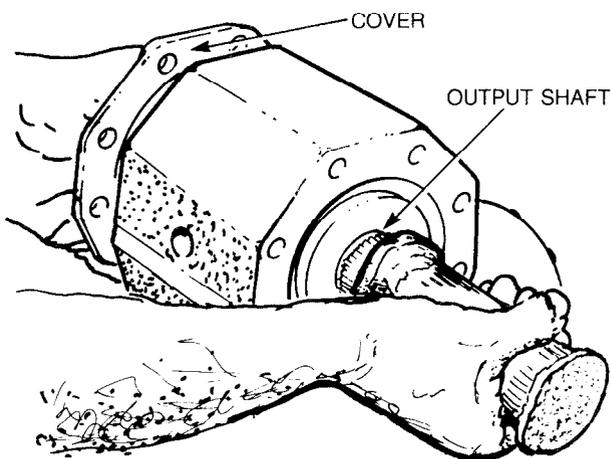

Figure 264 — Tapping Output Shaft
- d. Clean the exposed portion of the output shaft to prevent damaging the bearing, then using a soft hammer, tap on the end of the shaft to loosen the cover (see Fig. 264).